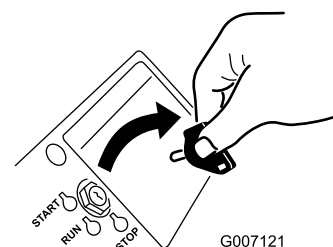

Figure 27
4. Remove the ignition key (Figure 27).